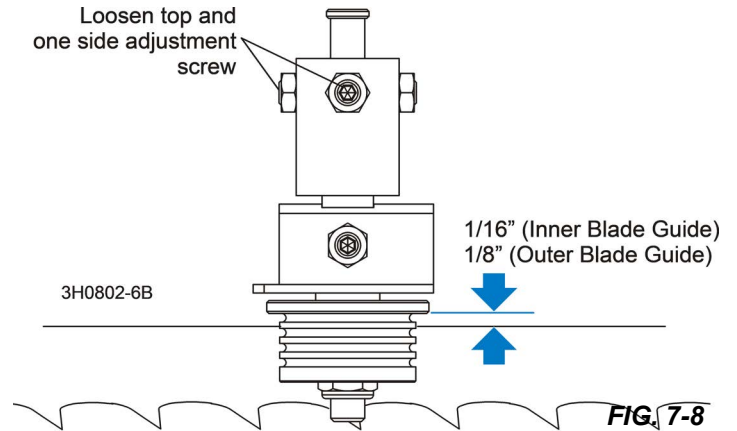

FIG. 7-8
2. Loosen the top and one side screw shown. **See FIG. 7-8.**